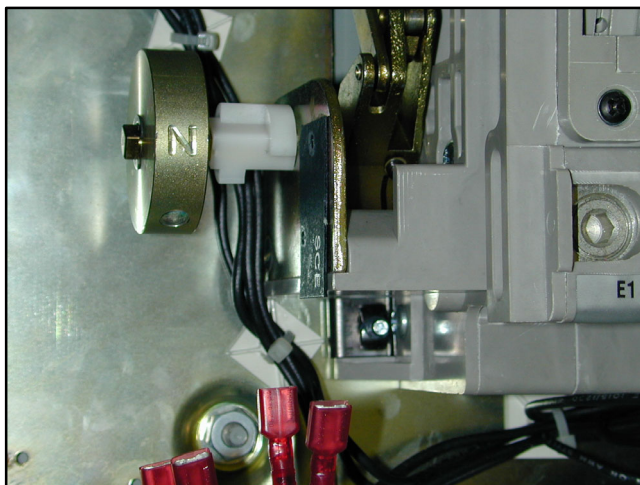

Figure 7-59 Microswitch Fast-On Connectors
6. Disconnect the fast-on connectors. See Figure 7-59.